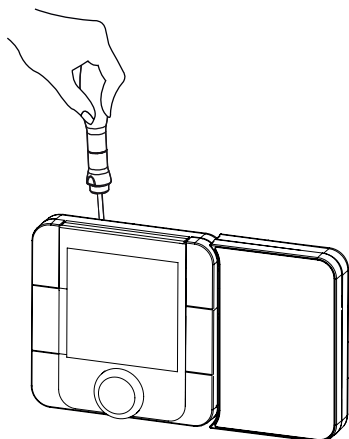

Fig. 1
1. separate the front part from the rear part of the terminal using a screwdriver (fig.1);
Insert a screwdriver in the upper slot (fig.1) and press downwards to extract the display.